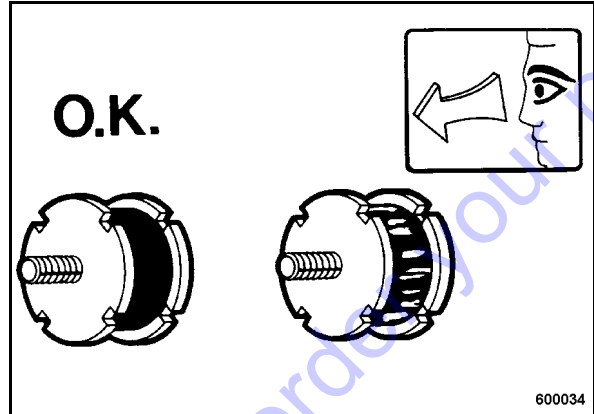

Fig. 69
- Check all rubber buffers (Fig. 69) for tight fit, cracks and damage and replace immediately if damaged.